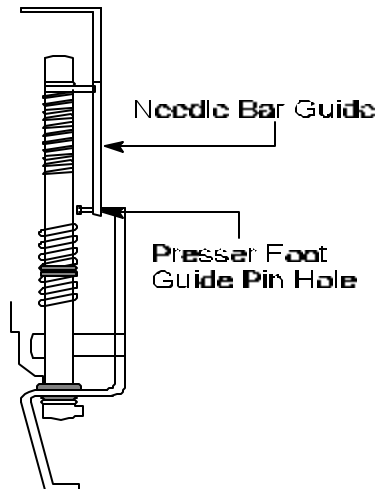

Figure 9
19. **Press** Needle Bar and Presser Foot together making sure Needle Bar guide pin lines up with Presser Foot guide pin hole. See Figure 9.